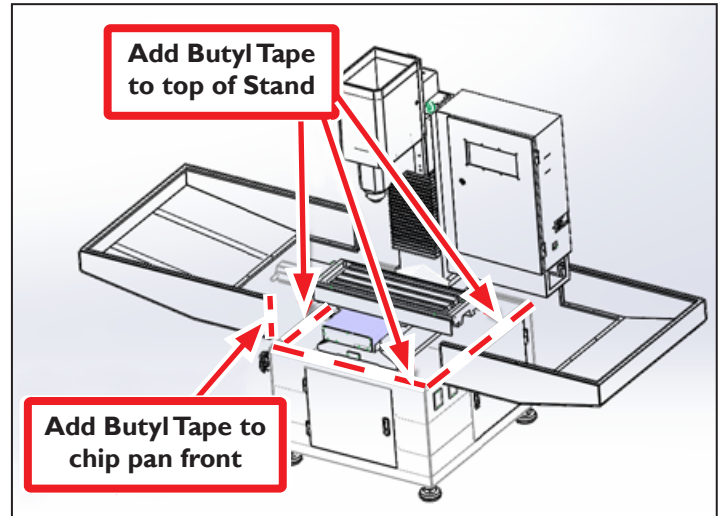

Figure 5
2. Seal joints between stand and chip pans with *Butyl Tape* as indicated in **Figure 5** prior to installing *Left Chip Pan* and *Right Chip Pan*. It is best to apply *Butyl Tape* and install one chip pan at a time.